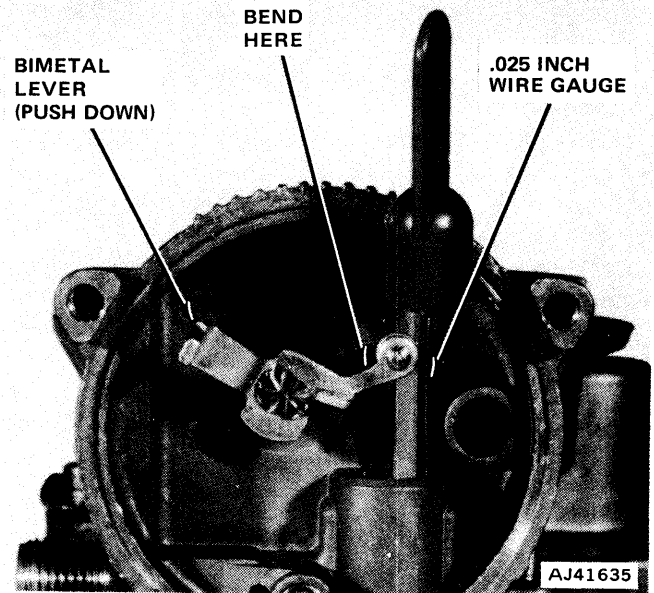

Fig. 4-30 Initial Choke Valve Clearance Adjustment
(1) Bend a 0.025-inch wire gauge at a 90° angle approximately 1/8 inch from end. Partially open throttle and close choke valve to position choke piston at top of its bore.
(2) Holding choke valve fully closed, release throttle and insert wire gauge into piston slot and against out-board side (right side of choke shaft) of piston bore. Push piston downward with gauge until bent end of gauge enters slot in piston bore. With gauge in place, push on choke shaft bimetal lever in counterclockwise direction to move piston upward, locking gauge in place (fig. 4-30).